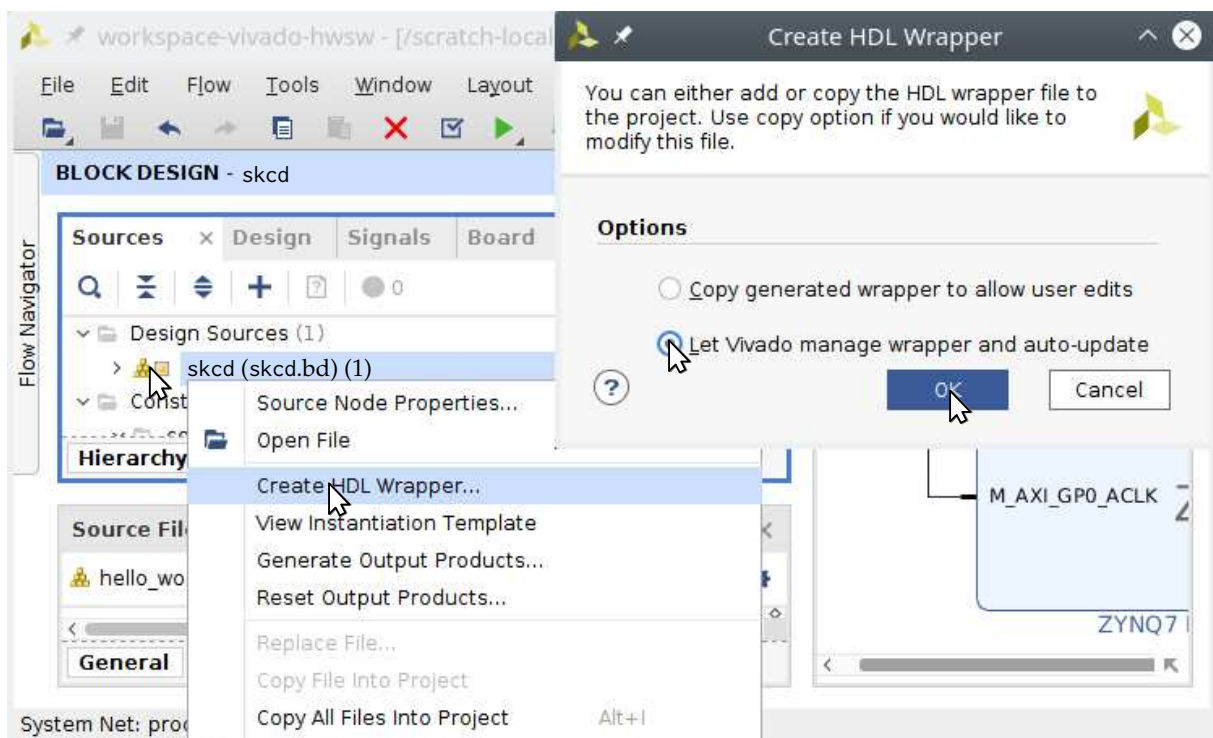
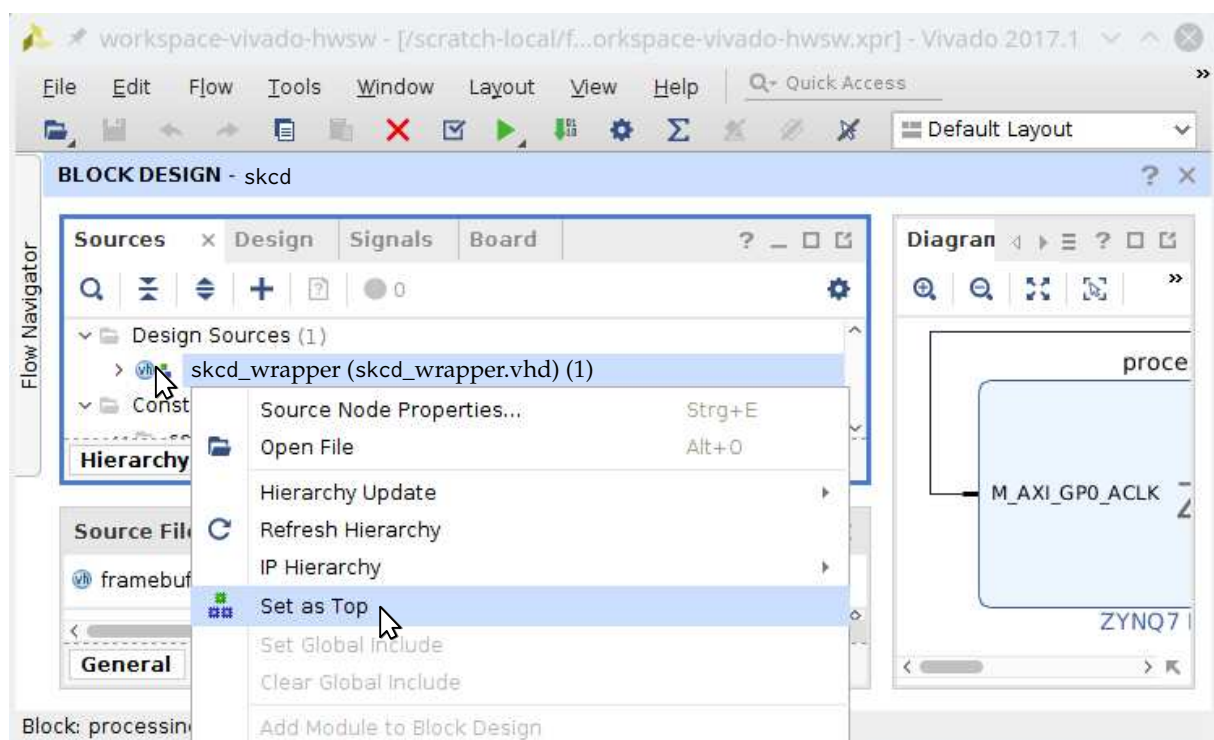

Figure 46: Create a HDL wrapper around the block design
Figure 47: Set the wrapper as top module for synthesis
- v) Subsequently, create a HDL wrapper (see Figure 46) around the block design and set it as the top module (see Figure 47). If the *Set as Top* command is grayed out, then the wrapper is already the top module.